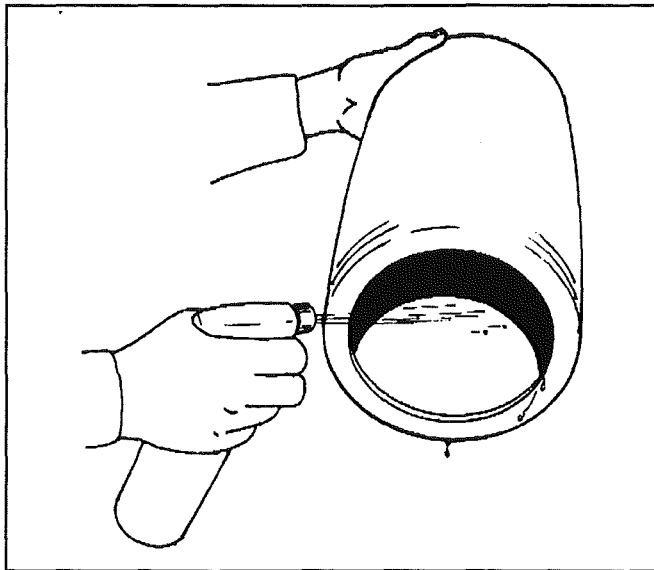

FIG. 12
- Apply silicone lubricant at top of the skirt, then press the bellows to elongate the opening and insert the upper retainer into the bellows. Position the upper retainer so that the bead will seat when air is applied (see figure 12).